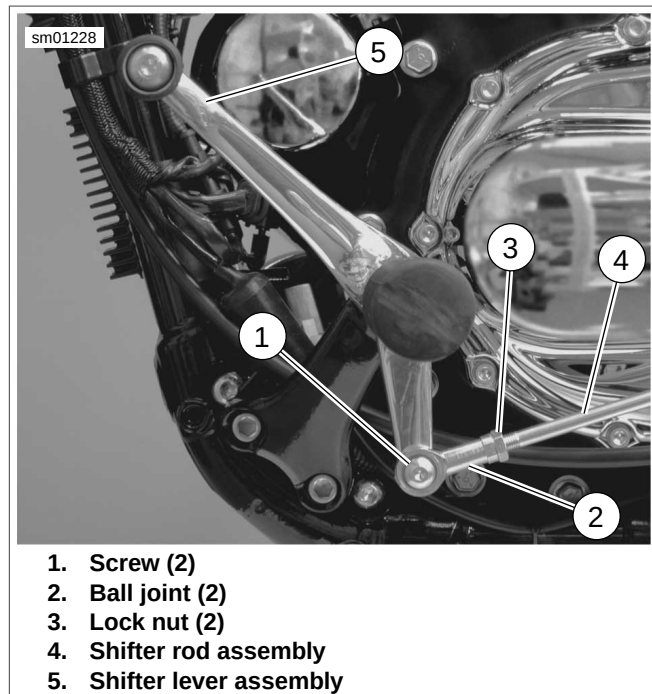

Figure 2-259. Adjusting Shift Pedal: Models with Forward Controls
See Figure 2-259. Adjust shifter rod assembly (4) length until shifter lever assembly (5) is at 45° as shown in the figure:
1. Loosen lock nuts (3) on both ends of shifter rod.
2. Remove screw (1) securing ball joint (2) to shifter lever assembly.
4. When angle of shift lever assembly is at 45°, install screw (1). Tighten to 120-180 **in-lbs** (13.6-20.4 Nm).